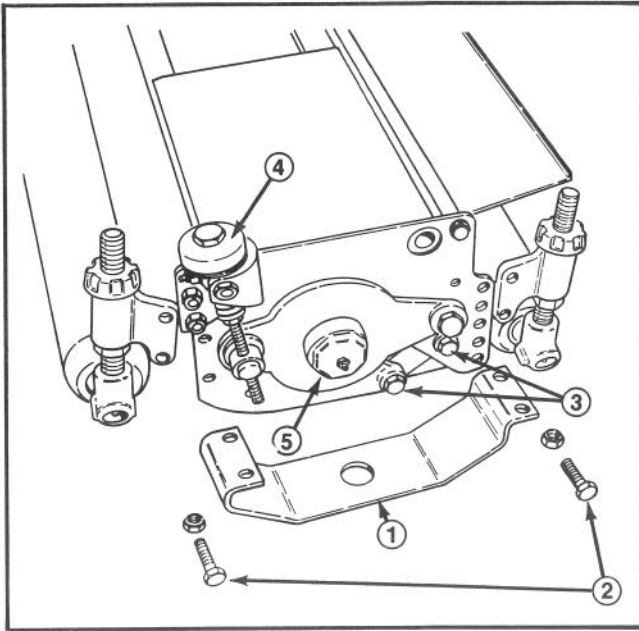

Figure 27
1. Remove the guards from each end of the cutting unit and the front and rear roller assemblies (Fig. 27).
11. To remove the bearing and seal from the bearing housing, remove the dust cap (Fig. 27) and press the bearing and seal out of the housing.